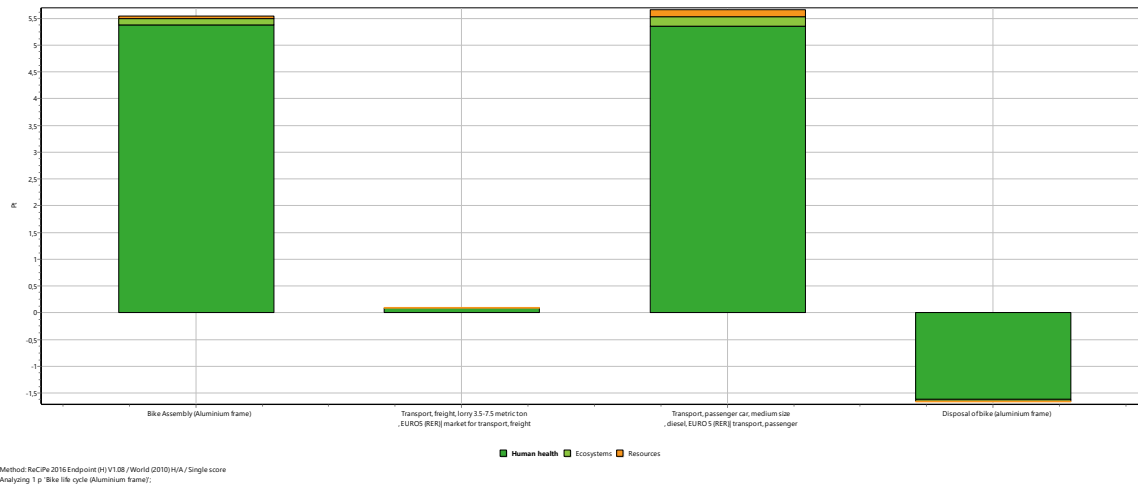

Figure 4.12 Analysis of environmental impacts over the entire bike life cycle using aluminium frame
To see the environmental impacts of the life cycle of the bike, click on the Bike life cycle (Aluminium frame) (under the Product stages > Life cycle > Others) and select the *Analyze icon* at the toolbar. Select ReCiPe 2016 Endpoint (H) with World (2010) H/A Normalization/Weighting set as the impact assessment method and click on the *Single score* tab. You will see a window as in Figure 4.12.